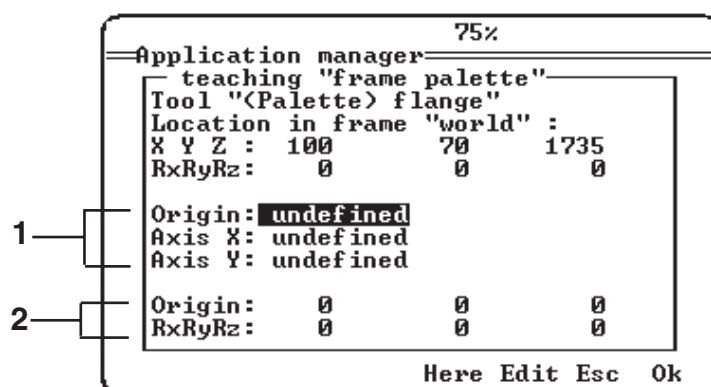

Figure 6.19
To access the debugging program, select a task and press the **Dbg** key in the pop-up menu. When the debugging session starts, the task selected is suspended immediately and a display page is opened (see figure 6.19).
- After creating a new **Frame** type data, use the **Teac** key in the menu to call up a "Teaching" display (see figure 6.19).
- Repeat the operation for "X axis" and "Y axis" and then validate the orientation of the new frame (1).